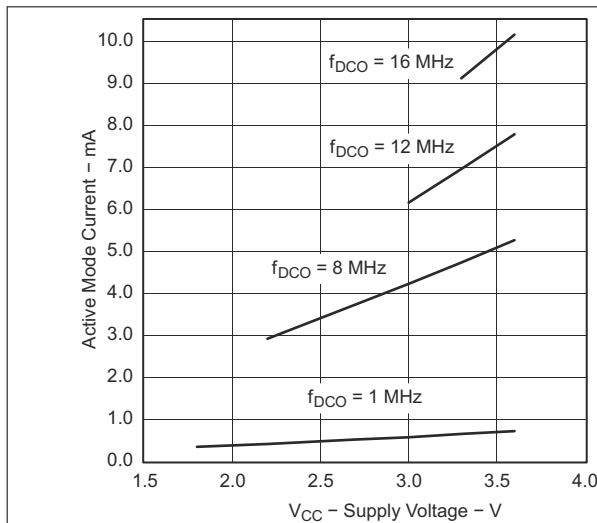
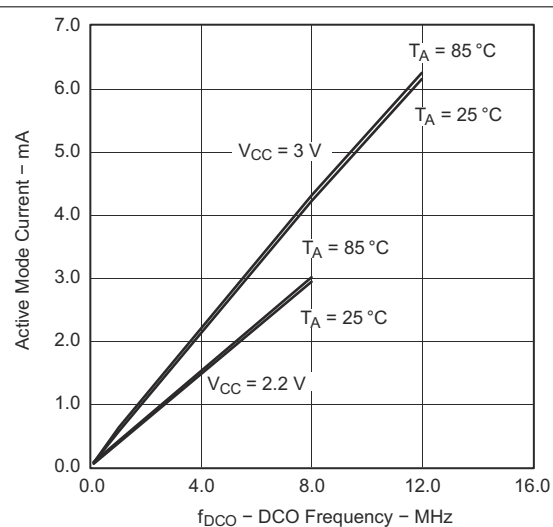

图 8-2. Active Mode Current vs Supply Voltage (TA = 25°C)
图 8-3. Active Mode Current vs DCO Frequency
over recommended ranges of supply voltage and operating free-air temperature (unless otherwise noted)(1) (2) (see 图 8-2 and 图 8-3)